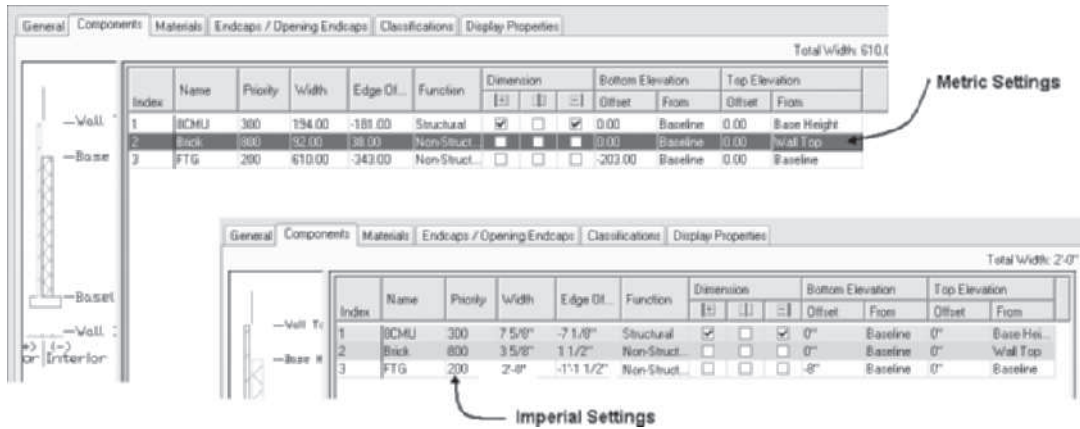

FIGURE 3.100 Components of BrickFND wall style
13. Click **BrickFND** in the left pane, select the **Components** tab, delete the **12CMU [300CMU]** wall component, and edit the remaining components as shown in Table 3.30 and Figure 3.100. Toggle **Exterior** for the positive and **Interior** for the negative direction of the wall. Notice that the brick component extends above the CMU in the left view window of the **Components** tab. Click **OK** to dismiss the Style Manager.